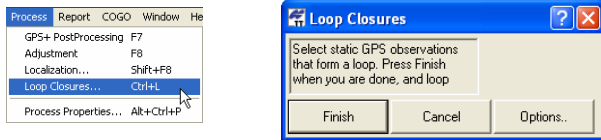

Figure 6-32. Process Loop Closure
- To generate a loop closure report, click **Process ▶ Loop closures**. The *Loop closures* dialog box will display (Figure 6-32).